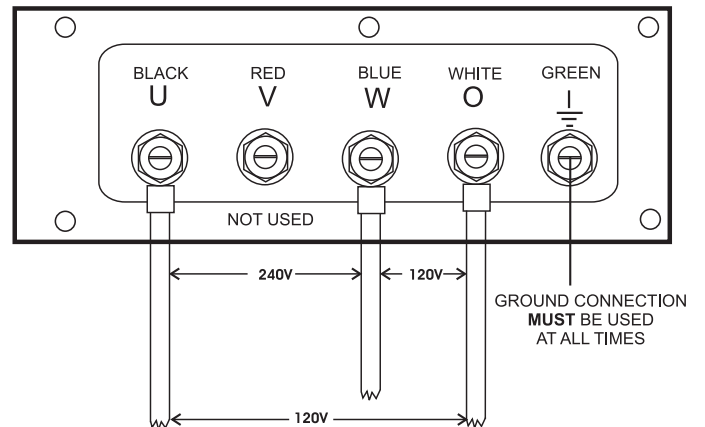

Figure 31. UVW Terminal Lugs 1Ø-240V/120V Connections
2. Connect the load wires to the UVW terminals as shown in Figure 31.